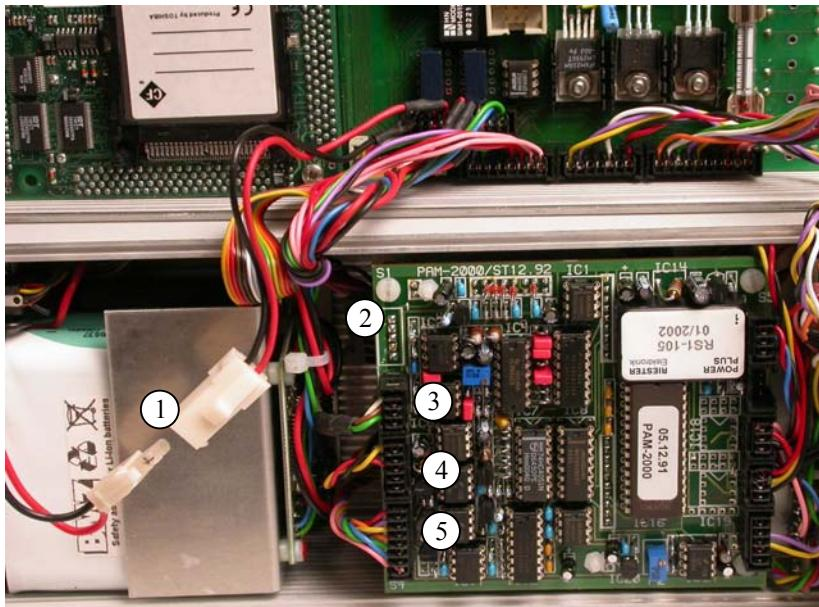

Fig. 61
screws (see Fig. 61). First the battery (1), then the four plugs (2), (3), (4) and (5) should be disconnected. There are little 'noses' at the right hand bottom of the plugs, which together with a small screw-driver will be useful to lift the plugs. Then the four plastic screws holding the circuit board must be removed before it can be folded to the right side and the microcontroller board becomes accessible.